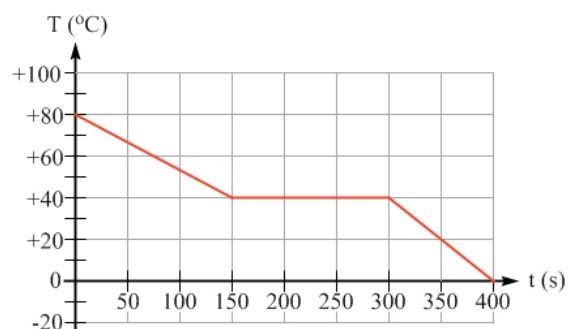

Figure 13.7: A graph of temperature as a function of time for a sample to which heat is being transferred at a constant rate, for Exercise 32.
32. The graph in Figure 13.7 shows the temperature of a sample of an unknown material as a function of time. Heat is either being transferred into or out of this sample at a steady rate. Over the period shown in the graph, the sample is in the solid phase for part of the time and is in the liquid phase for another part of the time. (a) Is heat being transferred into or out of this sample? (b) What is the material's melting point? (c) What is the ratio of the material's specific heat when liquid to the specific heat when solid?